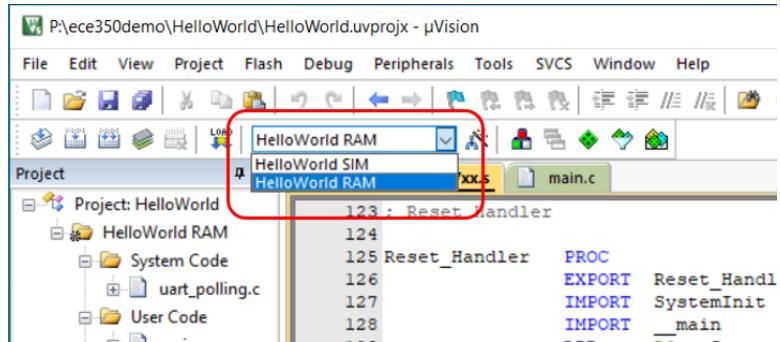
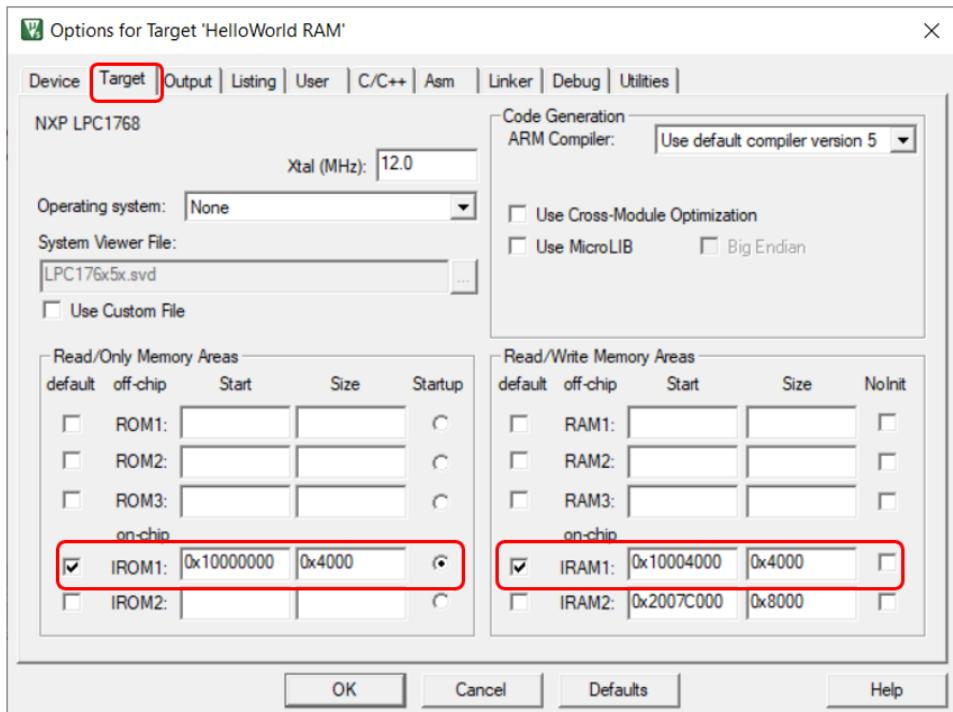

Figure 8.25: Keil IDE: Select HelloWorld RAM Target.
Figure 8.26: Keil IDE: Configure Target Options Target Tab for In-memory Execution.
3. Switch your target to the newly created RAM target (See Figure 8.25). Configure in-memory code execution as shown in Figure 8.26.
The ARM compiler can be configured to have a different starting address. The configuration in Figure 8.26 makes code starting address in RAM.